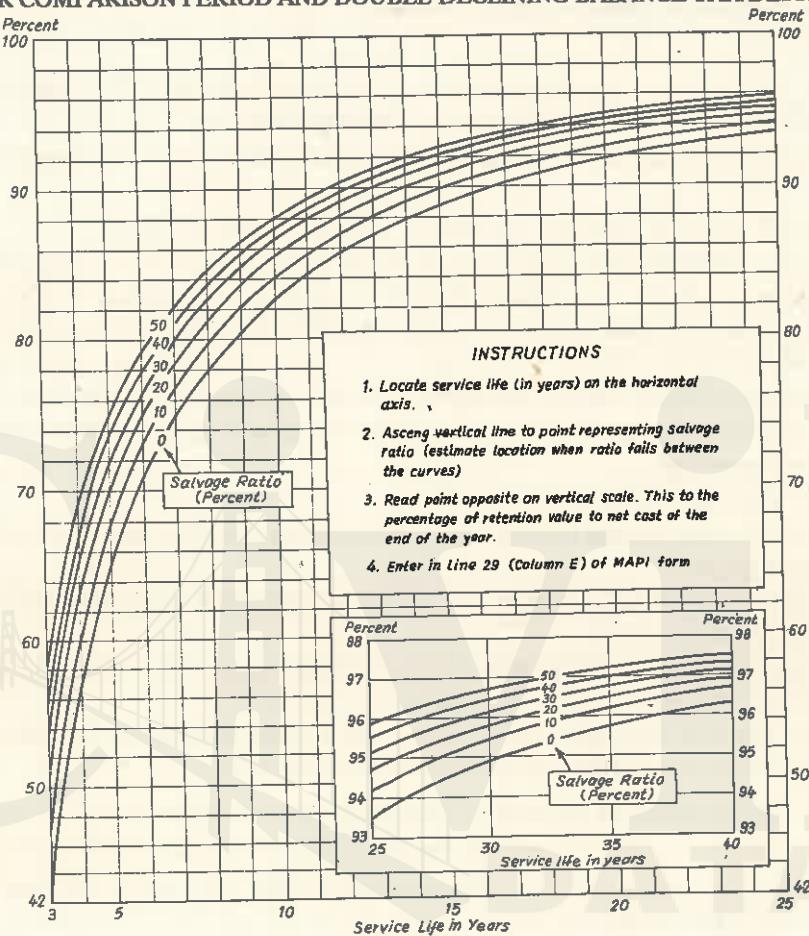

Fig. 14.2
- (ii) Chart No. 2A—It is for one year comparison period and double declining balance tax depreciation (refer Fig. 14.2)
** Refer MAPI chart No. 2A (Fig. 14.2). For 12 years of service life and 10% salvage ratio, read percent value on vertical scale. It comes out to be 87%.